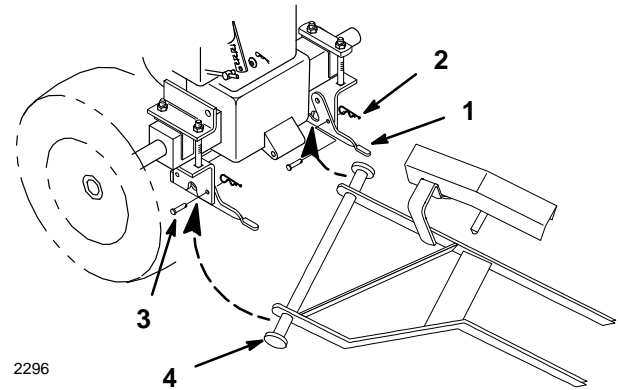

Figure 22
15. Remove hairpin cotters and clevis pins from latch levers (Fig. 22). Open latch levers and remove mounting rod.